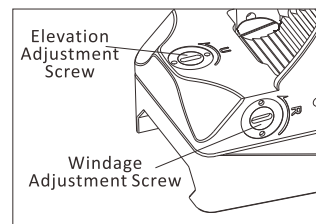

Fig 7
- 2) The Elevation adjustment is located on top of the tail section of the housing and the Windage adjustment is located on the right side of the housing. Adjustment can be performed by inserting the flat-tipped end of the included tool into the turret slot and rotating. See Fig 7.